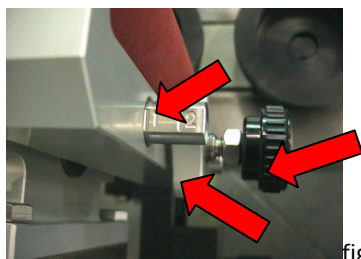
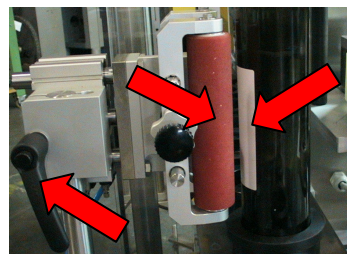

fig.6
fig.7
First occur to set the distance between contrast rolls in function the the bottle's diameter through the little knob and relative lock ring ( fig.6 ). About height adjustment is possible do that though the jaccarde fig.7, adjust approx. between the label's height size fig.7 :
- per diameters from 50 up to 70 mm, set on reference mark 1 ( fig 6 )